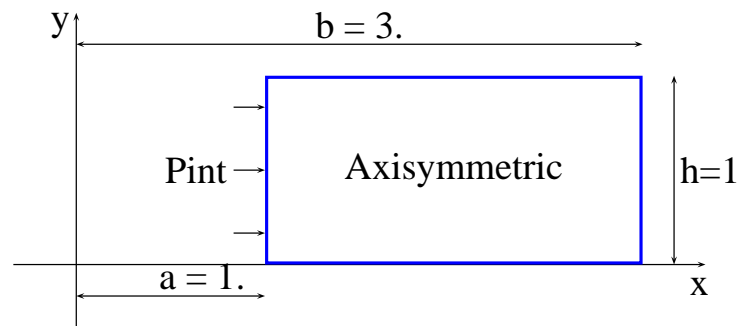

Fig.1 : Conditions of the computations
- o Dimensions of the model are given in Fig.1.